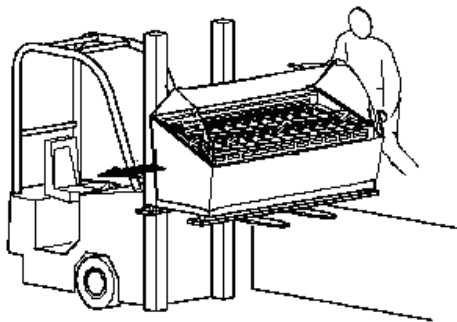

fig. 1
- Ensuring that the forks are completely under the entire display cabinet and centered from side to side on the cabinet (see fig.1 below). You are now ready to lift off of the pallet.